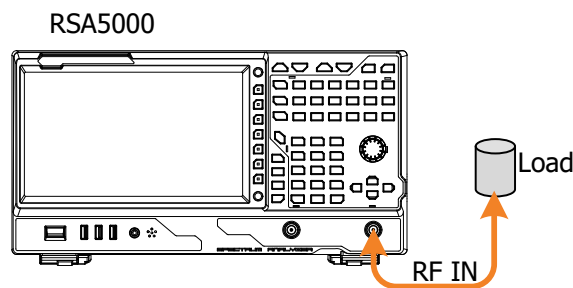

Figure 2-1 DANL Test Connection Diagram
1. Connect the 50 Ω matched load to the RF input terminal of RSA5000, as shown in Figure 2-1.